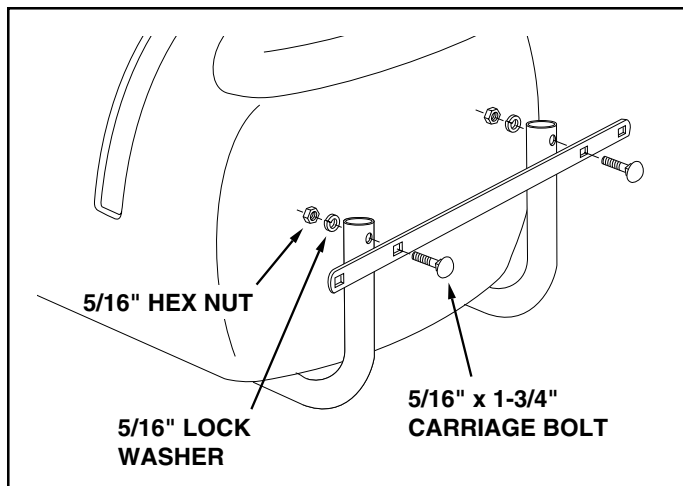

FIGURE 6 REAR VIEW
- Assemble the boom mount bracket to the rear of the hitch tubes using two 5/16" x 1-3/4" carriage bolts, 5/16" lock washers and 5/16" hex nuts. **Do not tighten yet.** See figure 6.
**Tighten** the two bolts which fasten the boom mount bracket to the rear of the hitch tubes. See figure 6.